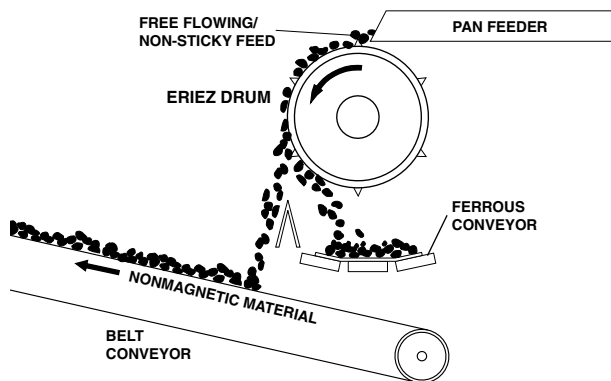

FIGURE 5
- Feed to the top of the drum as shown in Figure 5.